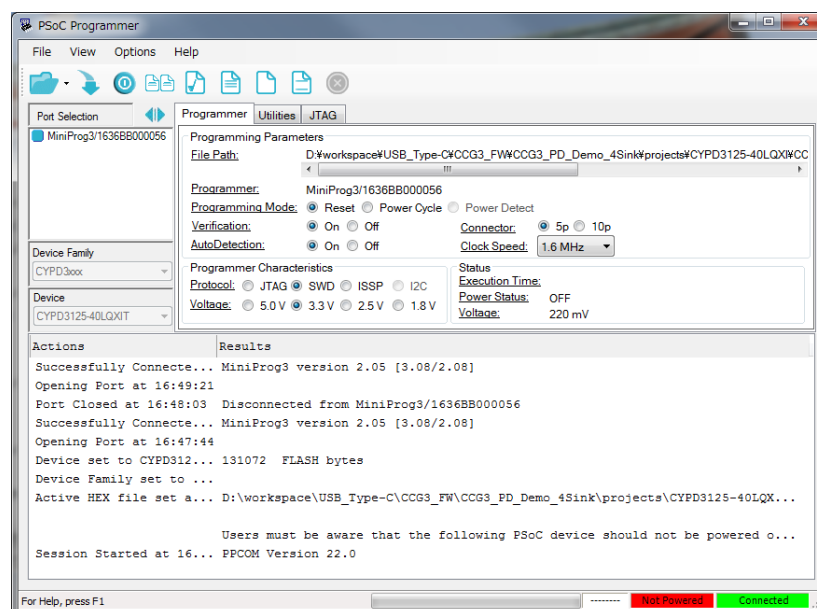

Figure 5-7 Connection of PC and MiniProg3
- 5) As shown in Figure 5-7, click the power on button [  ] to turn on power to the board.